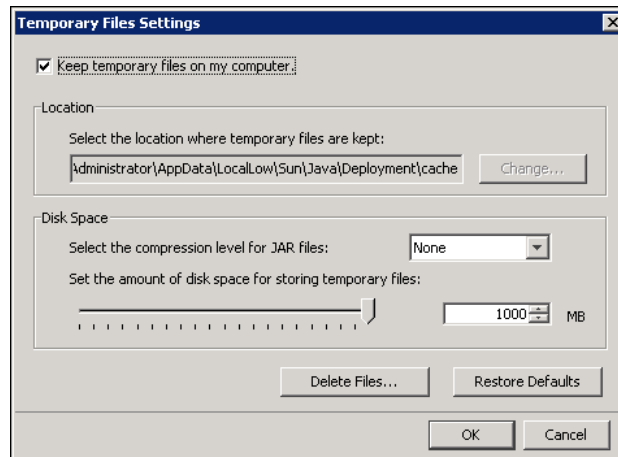

Figure 8-2 Temporary Internet Settings dialog box
3. Click **Delete Files** to remove the temporary files used by Java applications (see Figure 8-2).